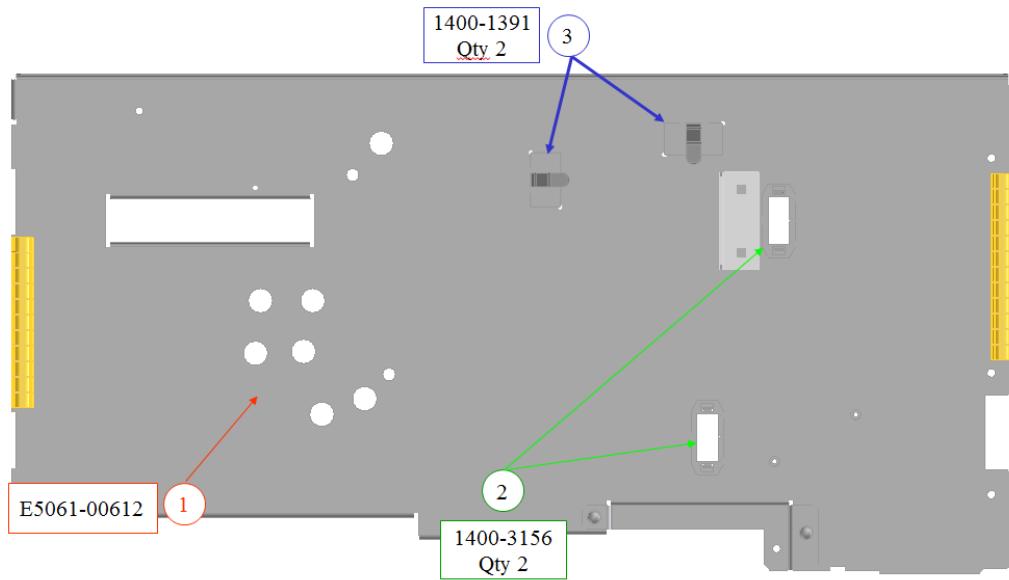

Figure 1-11
10. On the Front Panel back cover shield, install the cable clamp as shown in figure 1-11